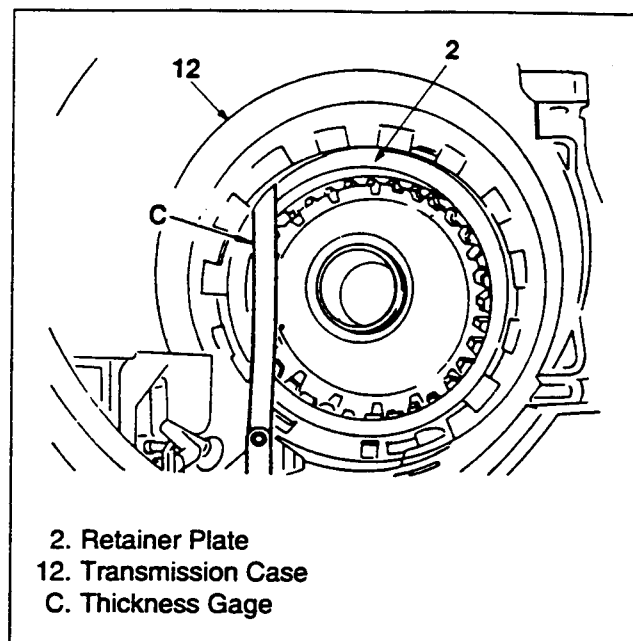

Figure 176. Clearance Check
5. After the operation check, measure the clearance between the retaining plate and snap ring with a thickness gage (figure 176).